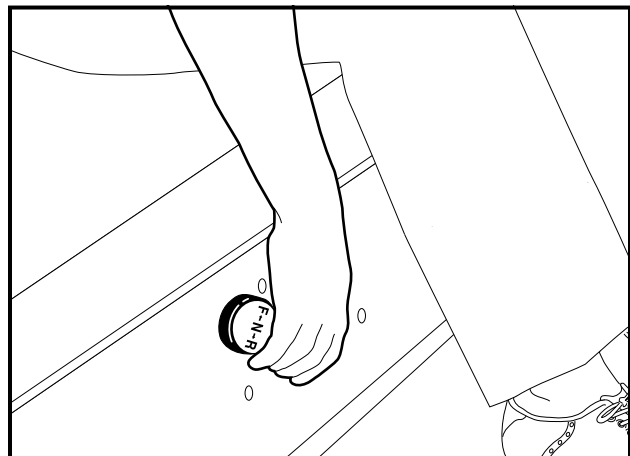

Figure 5 Forward/Reverse Handle
The Forward/Reverse (F&R) handle is located on the seat support panel, below and to the right of the driver's right knee (**Figure 5, Page 7**). The F&R handle has three distinct positions—FORWARD, REVERSE, and NEUTRAL. Rotate the handle to the FORWARD (F) position, towards the driver, to operate the vehicle in the forward direction. Rotate the handle to the REVERSE (R) position, towards the passenger, to drive the vehicle in the reverse direction. When the F&R handle is in the straight-up, NEUTRAL (N) position, the vehicle will not run. DS vehicles operate at reduced speed in reverse. When the vehicle is in reverse, the reverse warning buzzer will sound.